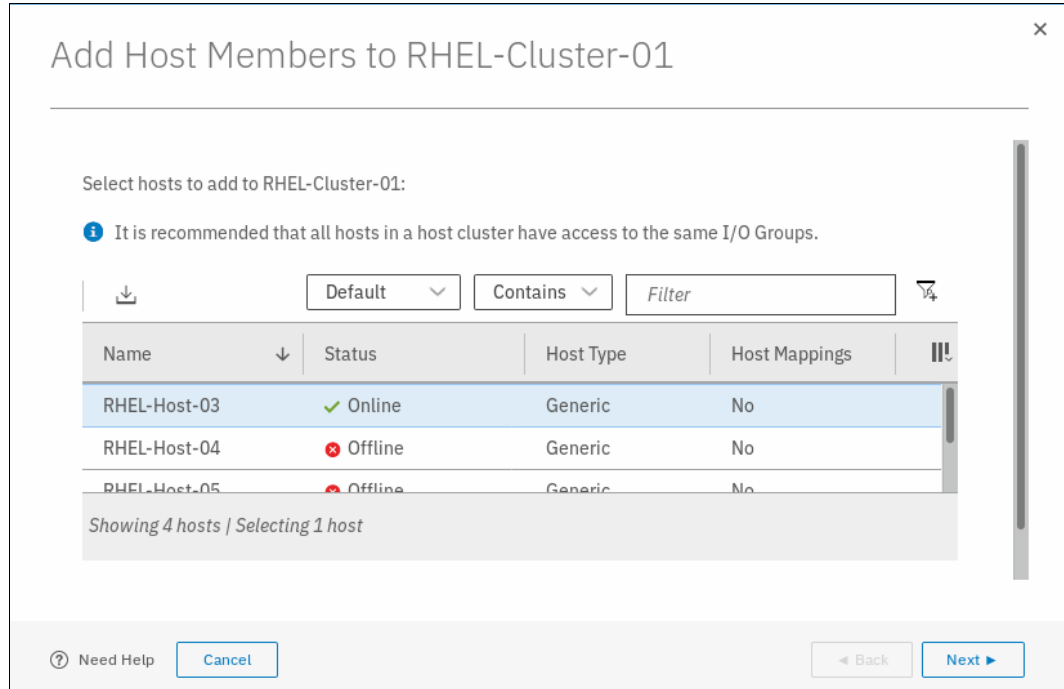

Figure 5-78 Selecting wanted hosts
3. Select the wanted hosts, as shown in Figure 5-78.